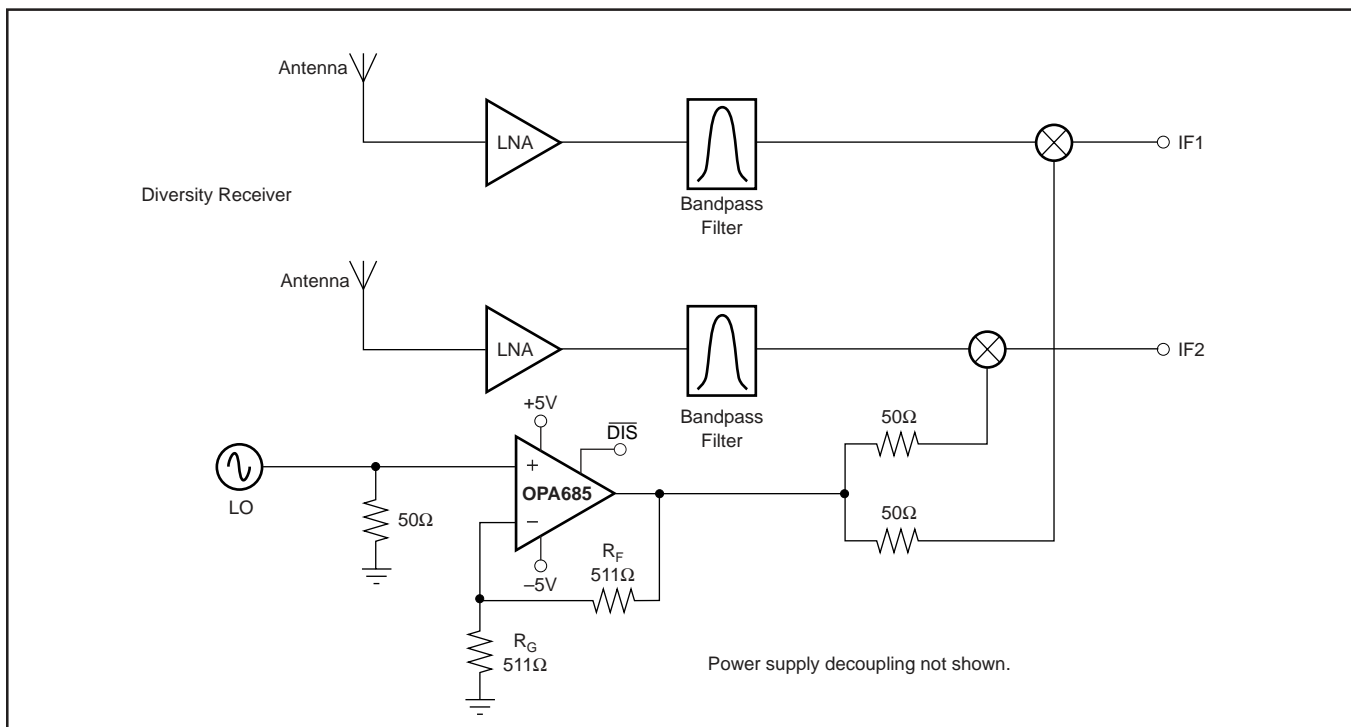

FIGURE 6. Dual Output LO Buffer.
The OPA685 may also be used to buffer the Local Oscillator (LO) from the mixer(s). Operating at a voltage gain of +2, the OPA685 will provide almost perfect load isolation for the LO with a net gain of 0dB to the mixer. Applications through 1GHz LOs may be considered, but best operation would be for LOs  $< 500\text{MHz}$  at a gain of +2. Gain could also be easily provided by the OPA685 to drive higher power levels into the mixer. One unique option in using the OPA685 as an LO buffer is shown in Figure 6. Since the OPA685 can